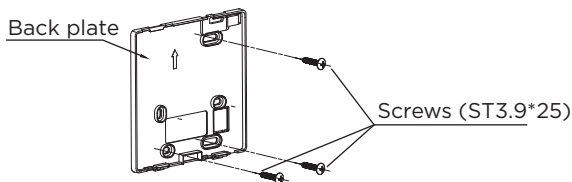

Fig. 3-3
- For exposed mounting, fasten the back plate on the wall with the 3 screws (ST3.9*25) and plugs. (Fig. 3-3)